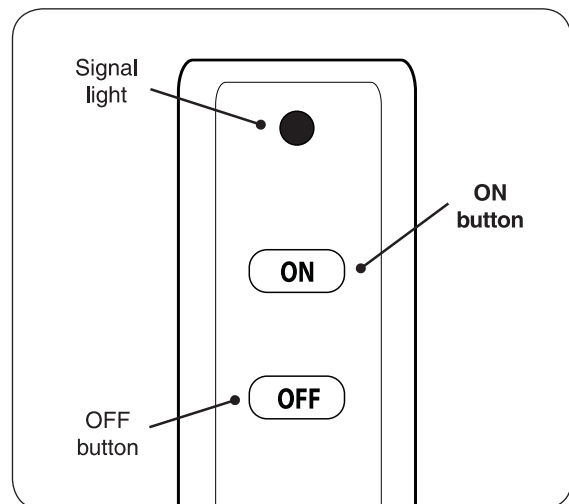

Fig. 35-2 Remote transmitter detail
3. Locate the remote transmitter and press the **ON** button (see Fig. 35-2). The ignition sequence will begin.